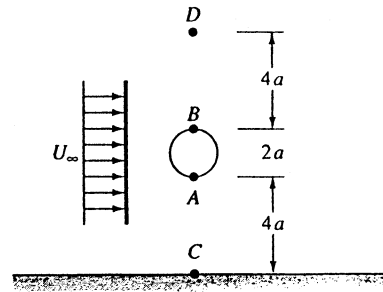

Fig. P8.76
**8.76** Use the method of images to approximate the flow past a cylinder at distance  $4a$  from the wall, as in Fig. P8.76. To illustrate the effect of the wall, compute the velocities at points A, B, C, and D, comparing with a cylinder flow in an infinite expanse of fluid (without walls).